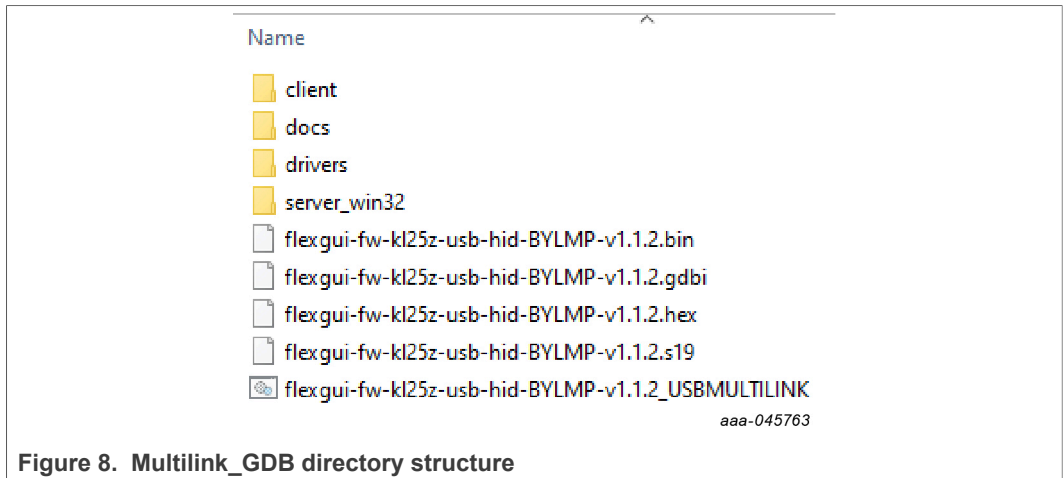

Figure 8. Multilink_GDB directory structure
1. Copy content of the MCU folder (see Table 2) to your ‘Multilink_GDB’ root folder. The copied content of the MCU folder should have similar directory structure as shown in Figure 8, without the docs and drivers folders.